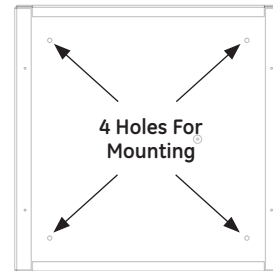

FIGURE 3
- Secure the mounting box accessory to the ceiling surface using 4 suitable fasteners, and anchors where applicable. Minimum recommended fastener diameter $\frac{1}{4}$ " (See Figure 3).